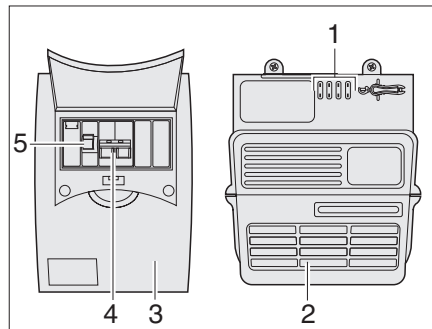

Fig. 89 Power pack and automatic circuit breaker
Fuse box The 230 V fuse box (Fig. 89,3) is mounted next to the power pack (Fig. 89,2).
The main fuse (Fig. 89,4) and a residual-current circuit-breaker (Fig. 89,5) are located in the fuse box (Fig. 89).
The residual current circuit-breaker (Fig. 89,5) measures the current flow of the current feed and return lines. If the two lines are equivalent, the residual-current circuit-breaker does not become active. If there is a difference between the lines the breaker interrupts the current flow immediately. This prevents dangerous electrical accidents.
- Switch the main switch (Fig. 89,4) upwards to the "ON" position.
- Switch the residual-current circuit-breaker (Fig. 89,5) upwards to the "ON" position.